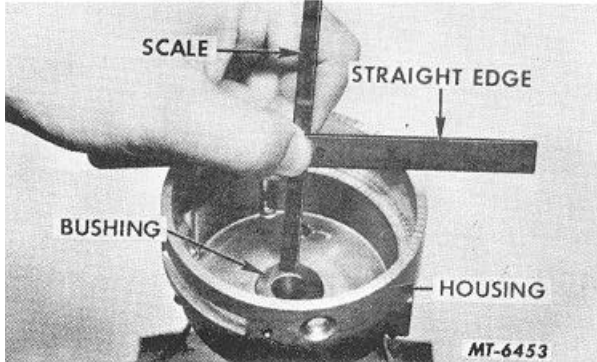

Fig. 42 Using Straight Edge and Scale to Locate Upper Bushing in Distributor Housing
7. Press upper bushing into housing to a dimension of 1-51/64" from top of housing to top of bushing. Use a straight edge and scale to measure this distance (Fig. 42).